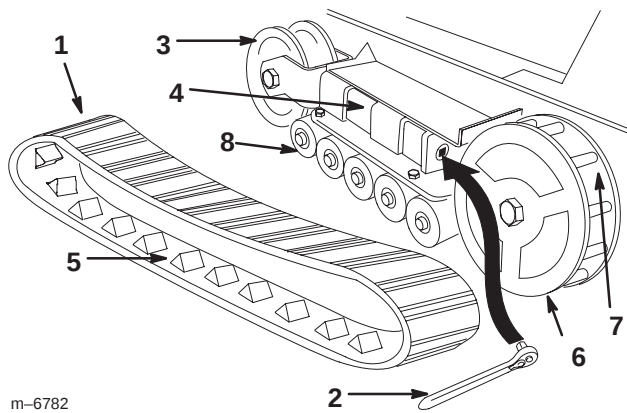

Figure 34
- Push the tension wheel toward the rear of the unit to move the fork tube against the frame (Fig. 34). (If it does not touch the frame, continue turning the tensioning screw until it does.)
- When the track is off of the tension wheel, remove it from the drive sprocket and road wheels (Fig. 34).
- Beginning at the drive sprocket, coil the new track around the sprocket, ensuring that the lugs on the track fit between the spacers on the sprocket (Fig. 34).
- Push the track under and between the road wheels (Fig. 34).